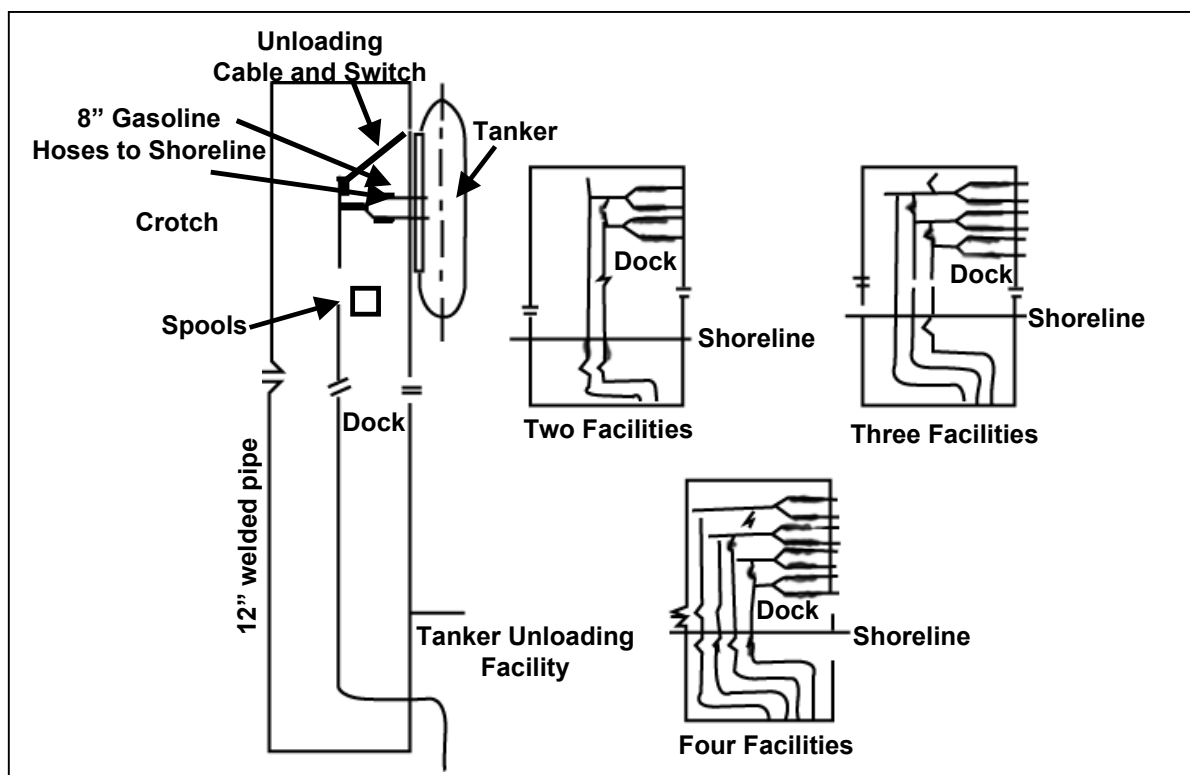

Figure 8-1. Layout of marine dock facilities for tanker unloading.
- Docks and piers: Docks or piers are the most secure for unloading tankers. Security is easier to maintain. Access to the tanker is easier in case of emergency and for maintenance. They are protected from winds and tide and should be separated from other classes of supply. The depth should be at least ten feet of water under the biggest tanker you expect to receive fully loaded at mean low tide (Figure 8-1).